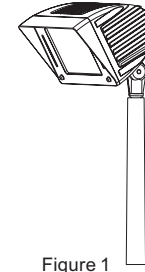

Figure 1
- 1). Connect the wiring before necessary connector protection, screw led fixture to pole with 1/2"NPT (Figure 1) Adjust the lighting direction accordingly.